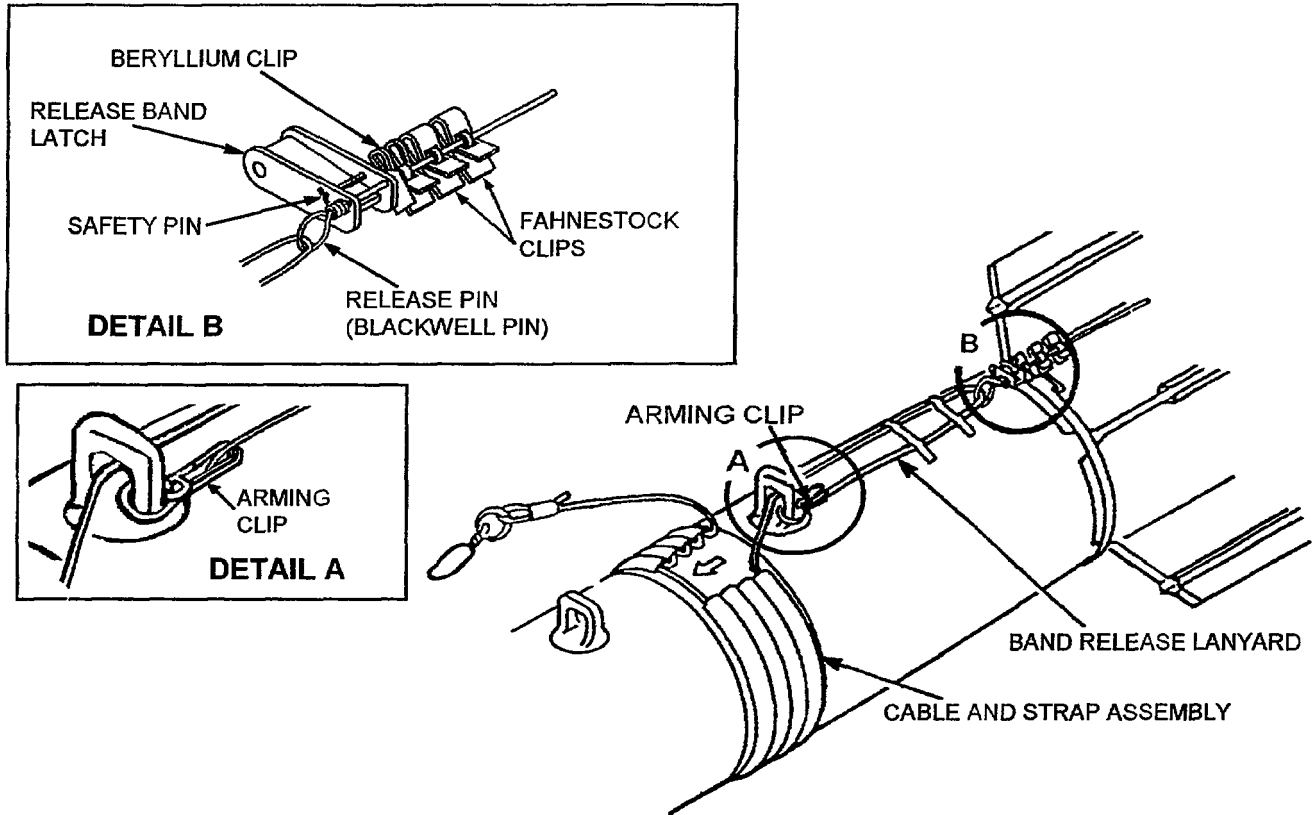

Figure 4-9F. Cable and Strap Assembly Installation (B-52 Aircraft)
- (8) While pulling lanyard from cable and strap assembly, install the Blackwell pin through the two inside holes in the release band latch. Secure the pin in place with one beryllium clip and two Fahnestock clips, positioning them as close to the latch as possible. Use pliers to facilitate beryllium clip installation (Figure 4-9F).
- (9) Pull on lanyard to make it taut. Secure lanyard to bomb with two or three 4-inch lengths of pressure sensitive tape, extending the tape at least 2 inches on both sides of the lanyard (Figure 4-9F).